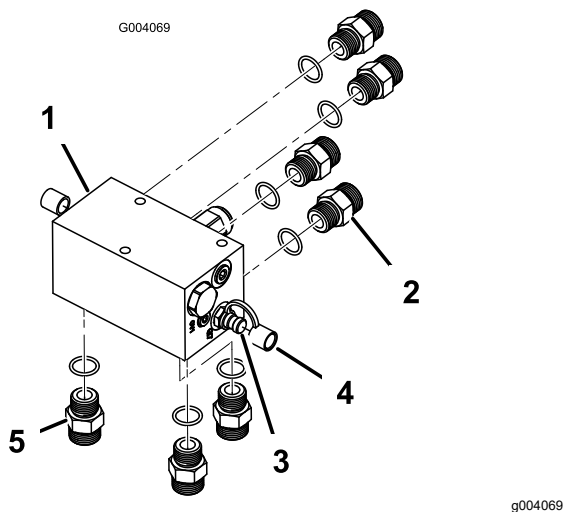

Figure 4
1. Install 4 straight hydraulic fittings into the rear of the manifold (Figure 4). Torque the fittings to 81 to 89 N·m (60 to 66 ft-lb).
2. Install 2 diagnostic fittings into either side of the manifold along with dust caps (Figure 4). Torque the fittings to 28 to 31 N·m (21 to 23 ft-lb).
3. Install 3 straight hydraulic fittings into the bottom of the manifold (Figure 4). Torque the fittings to 81 to 89 N·m (60 to 66 ft-lb).